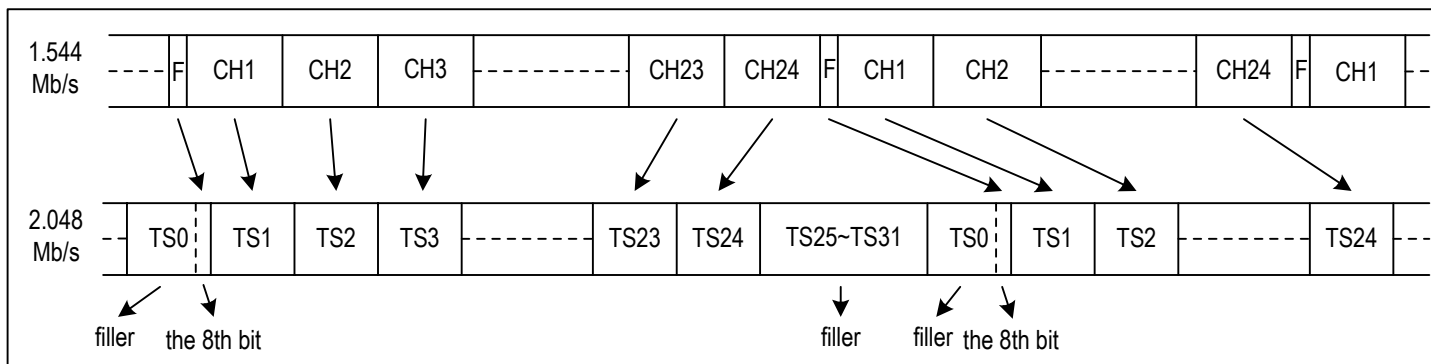

Figure 20. T1/J1 To E1 Format Mapping - Continuous Channels Mode
3. T1/J1 Mode E1 Rate per Continuous CHs (refer to Figure 20): Channel 1 to Channel 24 of Frame N from the device are converted into TS1 to TS24 of Frame N on the system side. The F-bit of Frame N from the device is converted into the 8th bit of Frame N on the system side. The first 7 bits and TS25 to TS31 on the system side are all filled with '0's and they are meaningless.